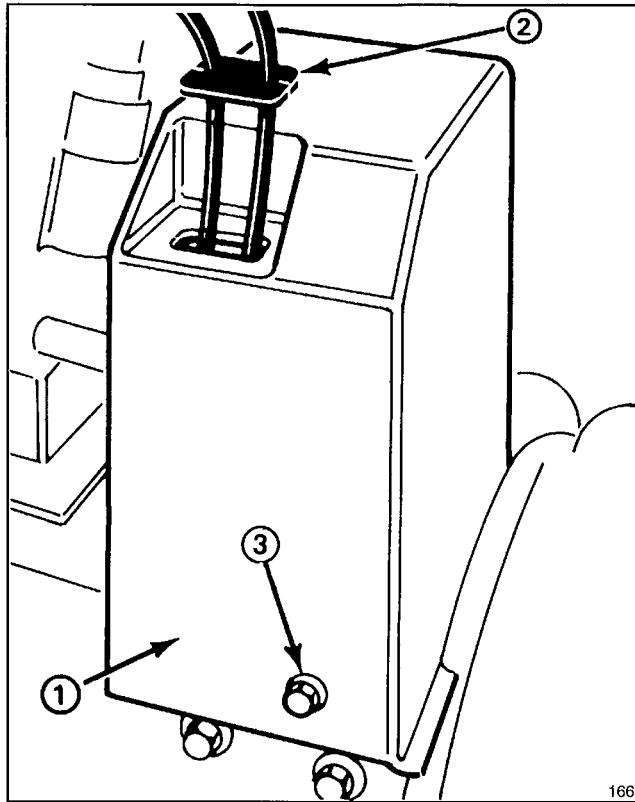

Figure 28
2. Remove (3) flange head capscrews securing belt cover to engine frame and slide belt cover up cables (Fig. 28).
2. Remove (3) flange head capscrews holding belt cover in place, and slide belt cover up cables (Fig. 28).
4. Remove (2) flange head capscrews securing idler pulley assembly to engine frame. Remove idler pulley assembly.